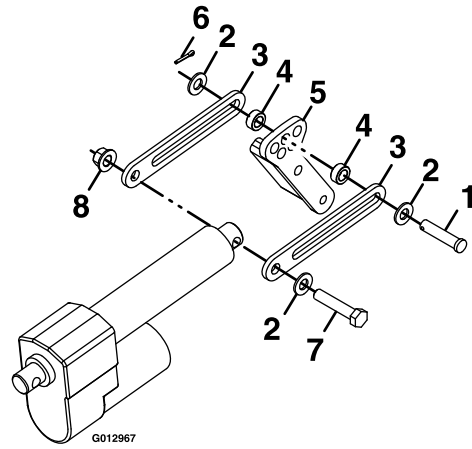

Figure 9
- Install the rear actuator side plates as shown in Figure 9.
- Install the actuator side plates to the actuator bracket as shown in Figure 9.